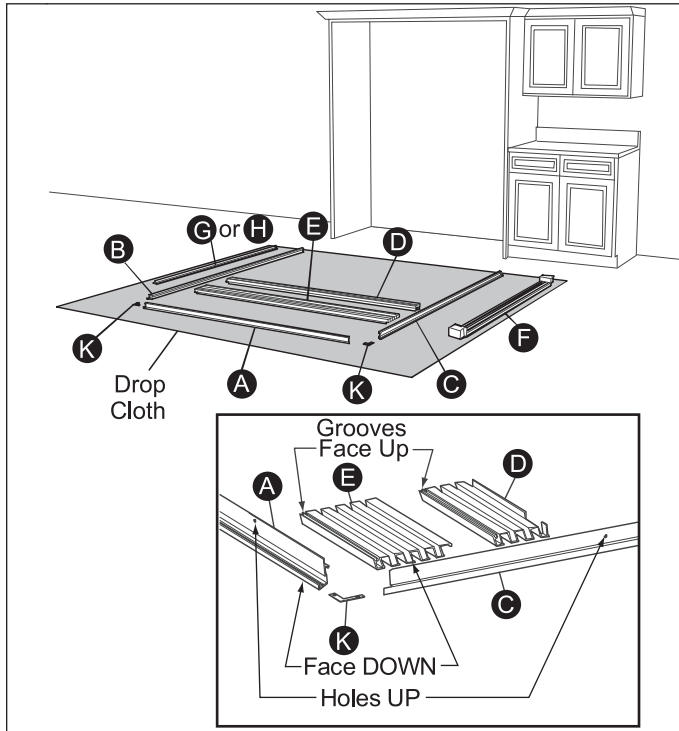

Figure 2-10.
1. Lay the parts out on a cleared area face down. Be sure to place a drop cloth over the floor to prevent scratching trim kit and/or floor. (See Figure 2-10).